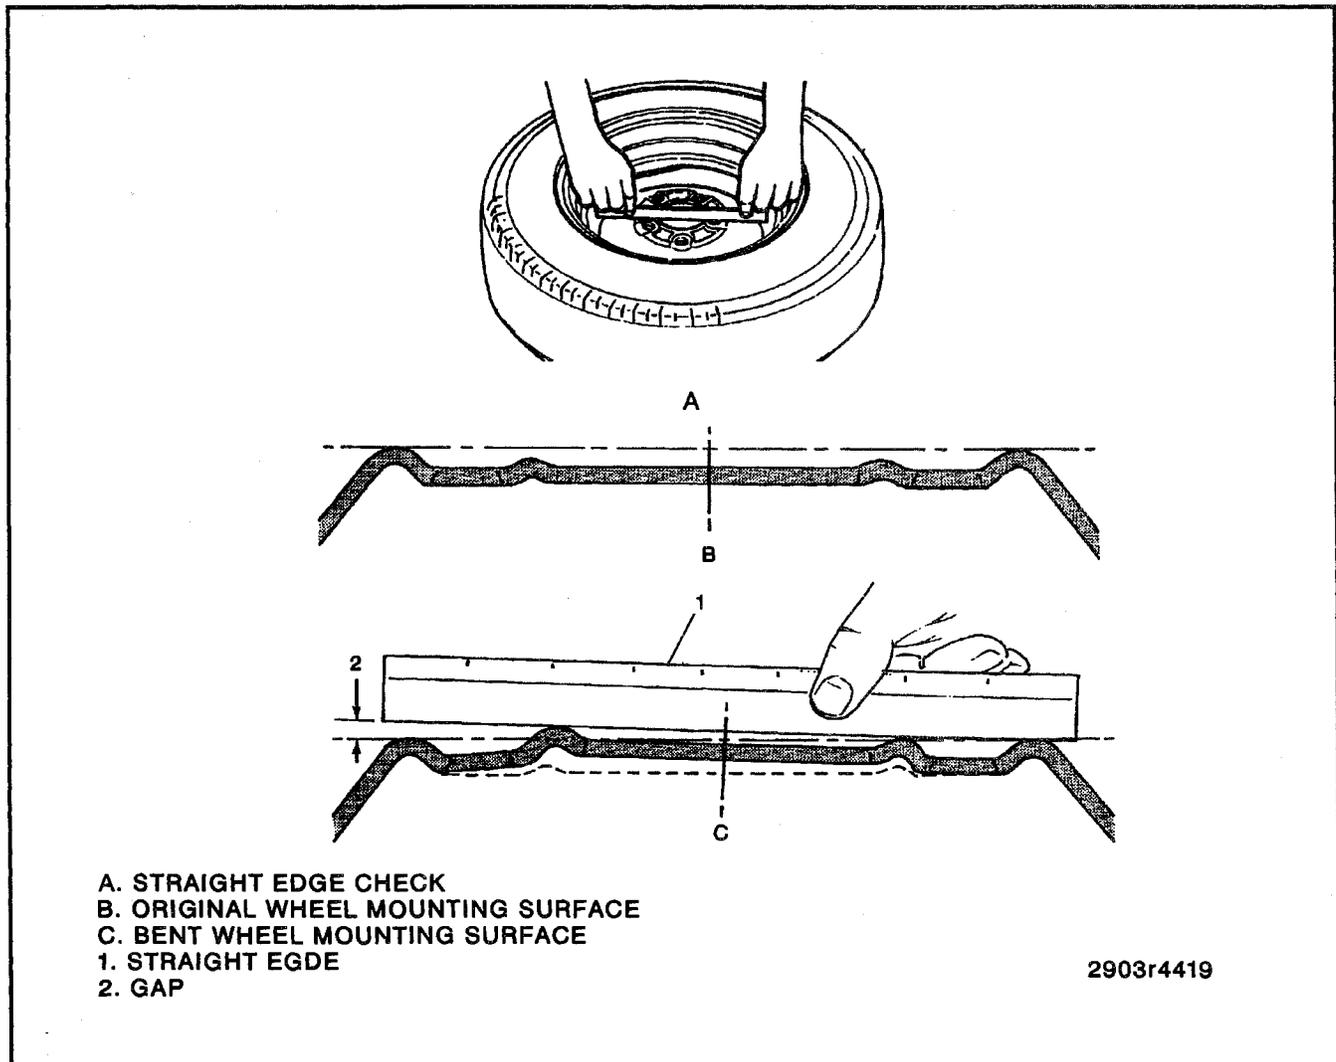

Figure 3—Checking Wheel Mounting Surface
Inspect (Figures 3 and 4)
- A. Use a straight edge 203 to 229mm (8 to 9 inches) long (Figure 3). Place it on the inboard mounting surface of the wheel and try to rock it up and down.
- C. The outer ring of the mounting surface is normally raised above everything inside it. If the wheel mounting surface has been bent on a tire changer, it will be raised above the outer ring (Figure 3).